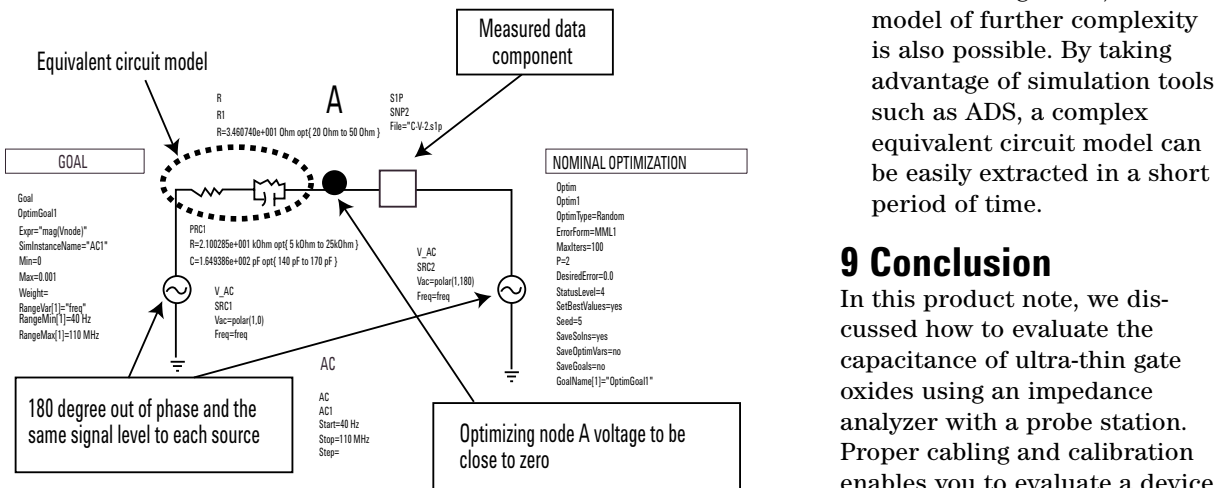

Figure 18. Balancing circuit
2. The balancing circuit shown in Figure 18 balances the voltage applied to the equivalent circuit model and the data item component. This is accomplished by applying two signals that are the same
4. The simulation of the three-parameter model is performed in Figure 18, and a model of further complexity is also possible. By taking advantage of simulation tools such as ADS, a complex equivalent circuit model can be easily extracted in a short period of time.